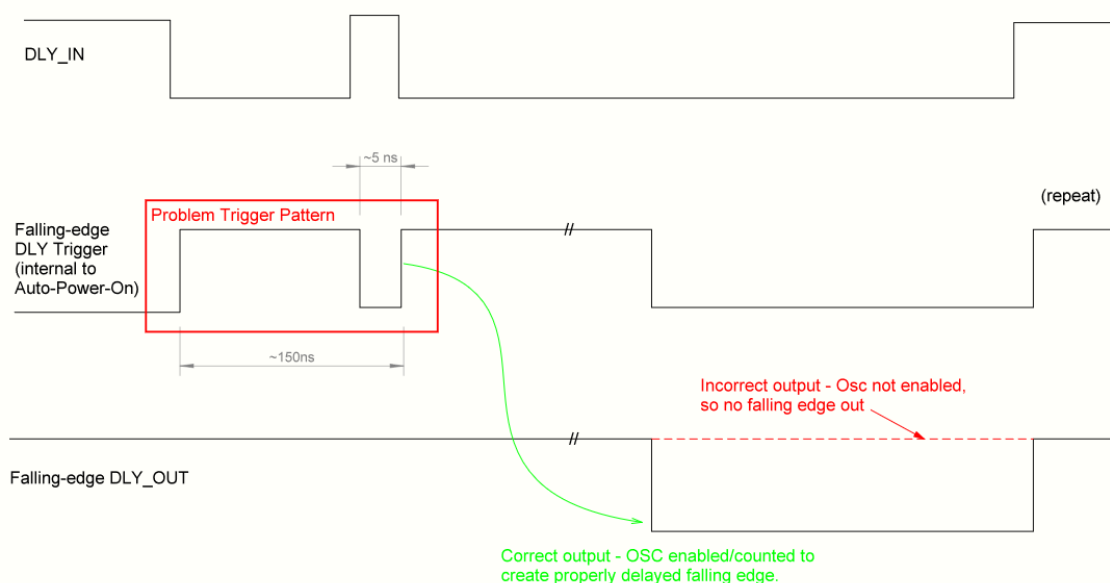

Figure 1: Problem Trigger Pattern
- OR of OSC trigger signals from all DLYs clocked by same OSC together form a long+short glitch pattern with precise (ns) timings as shown in Figure 1. The trigger signal generation per DLY is detailed in section **Error! Reference source not found.**
For this chip, the Auto Power On circuitry of the 25 kHz/2 MHz generators contains a circuit errata, which can potentially fail to power on the OSC for a specific pattern and timing of the OR of all related DLY trigger signals. The pattern is shown in Figure 1 (boxed in red) and consists of a relatively longer pulse (~145 ns) followed by a shorter (~5 ns) glitch of opposite polarity.